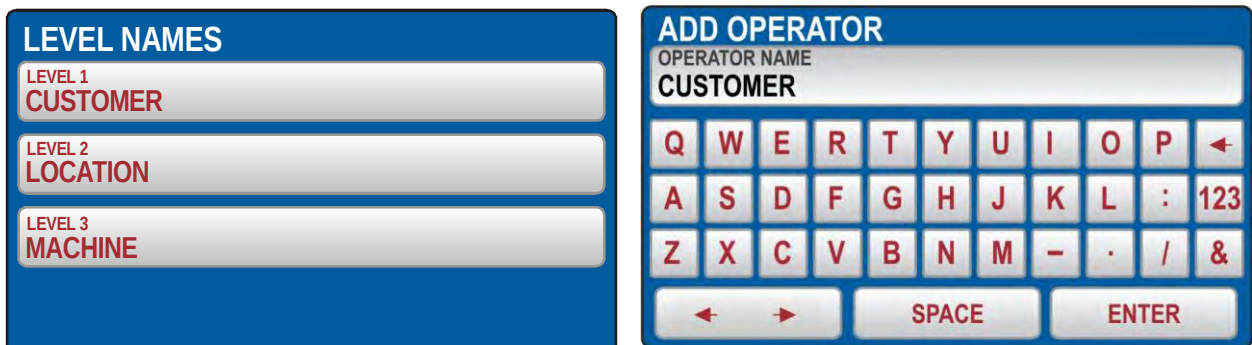

Fig. 12 : LEVEL NAMES Menu
- **LEVEL NAMES** → Up to 3 levels are available when saving test results **LEVEL1**, **LEVEL2** and **LEVEL3**. The operator can rename (**max 12 characters**) them freely by using the virtual keyboard (see Fig. 12) and can be used during the saving measurement data after the pressing of **SAVE** key (see § 7.1)